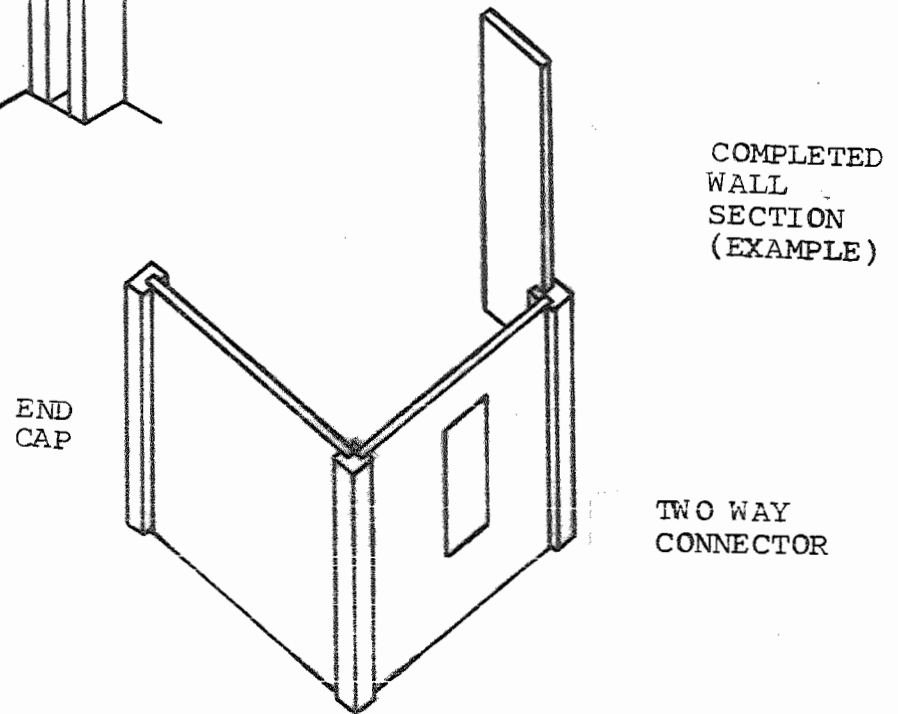

FIGURE 4
Use Figure 4 as a guide.
17) The final step in building up the walls of the dollhouse is to interlock the wall panel sections together as shown in Figure 4 & 2.